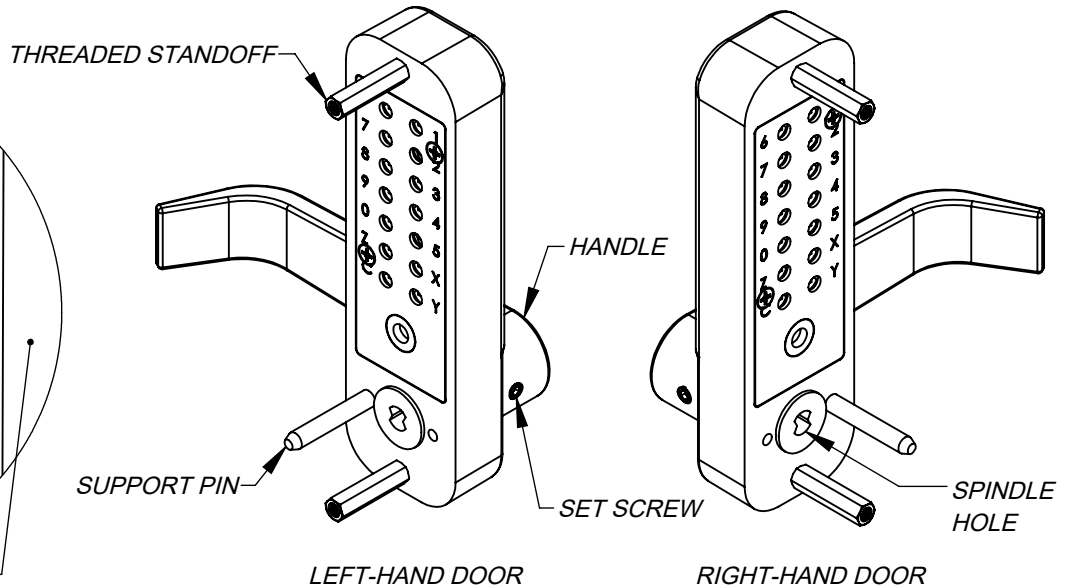

Figure 8
4) Attach the support pin to the back side of the outside body by screwing into the correct hole next to the spindle hole. For a left hand door, the support pin will attach to the hole on the left side of the spindle hole. For a right hand door, the support pin will attach to the hole on the right side of the spindle hole (Figure 8).
5) Attach the threaded standoffs to the top and bottom holes on the back side of the outside body (Figure 8).
6) Install the handles on the outside body and inside body. Place the first handle on the outside body in the correct orientation, with the end of the handle pointing toward the door hinges. Use the included hex key to secure the handle in place by adjusting the set screw in the handle (Figure 8). Repeat this process for the inside body.